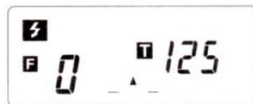

Fig. 11
1. Press either side of the UP/DOWN key to set the shutter speed (Fig. 11).